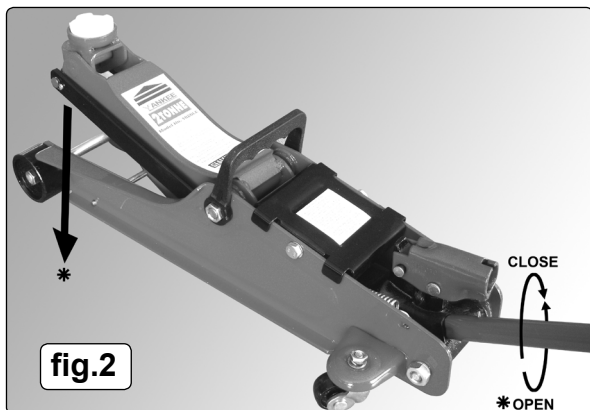

fig.2
- 3.1.1. Before using jack, purge hydraulic unit in order to eliminate any air in the system. Place handle onto the release valve nut as shown in fig.2 and open the valve by turning the handle anti-clockwise, place the handle back into the jacking socket and pump for 30 to 40 seconds. See fig.1. When complete, close the release valve by turning the valve nut clockwise.
- 3.3.1. Close the release valve using the handle as shown in fig.2. Place the handle into the handle socket and commence pumping handle up and down using maximum strokes until the jack saddle reaches the vehicle jacking point. Check the jacking point is centrally located on the saddle and raise the vehicle.